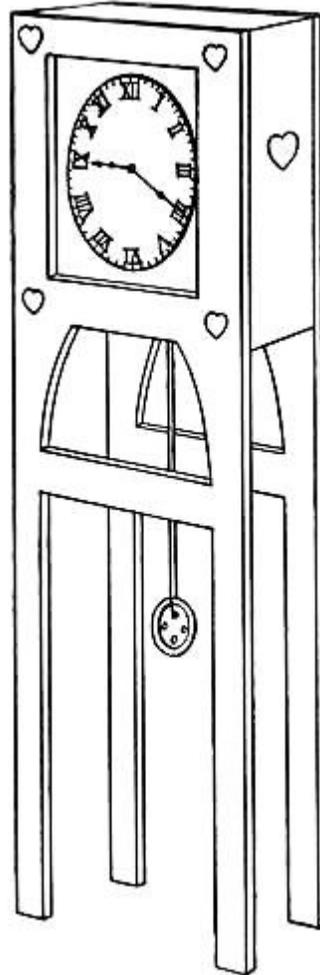

FIG. 134.
**The Grandfather's Clock** (Fig. 134) makes an effective piece of furniture for the hall or living-room, and is easily made. Figure 124 shows the pattern for the front of this clock. The back is made the same, with the omission of the square opening cut in the front frame for the clock-face. Cut a block of wood two by two by three-quarters